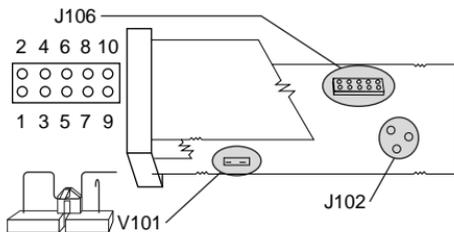

Figure 1
- 3) Open switch V101, located 1 inch behind the upper right corner of the display (see Figure 1).